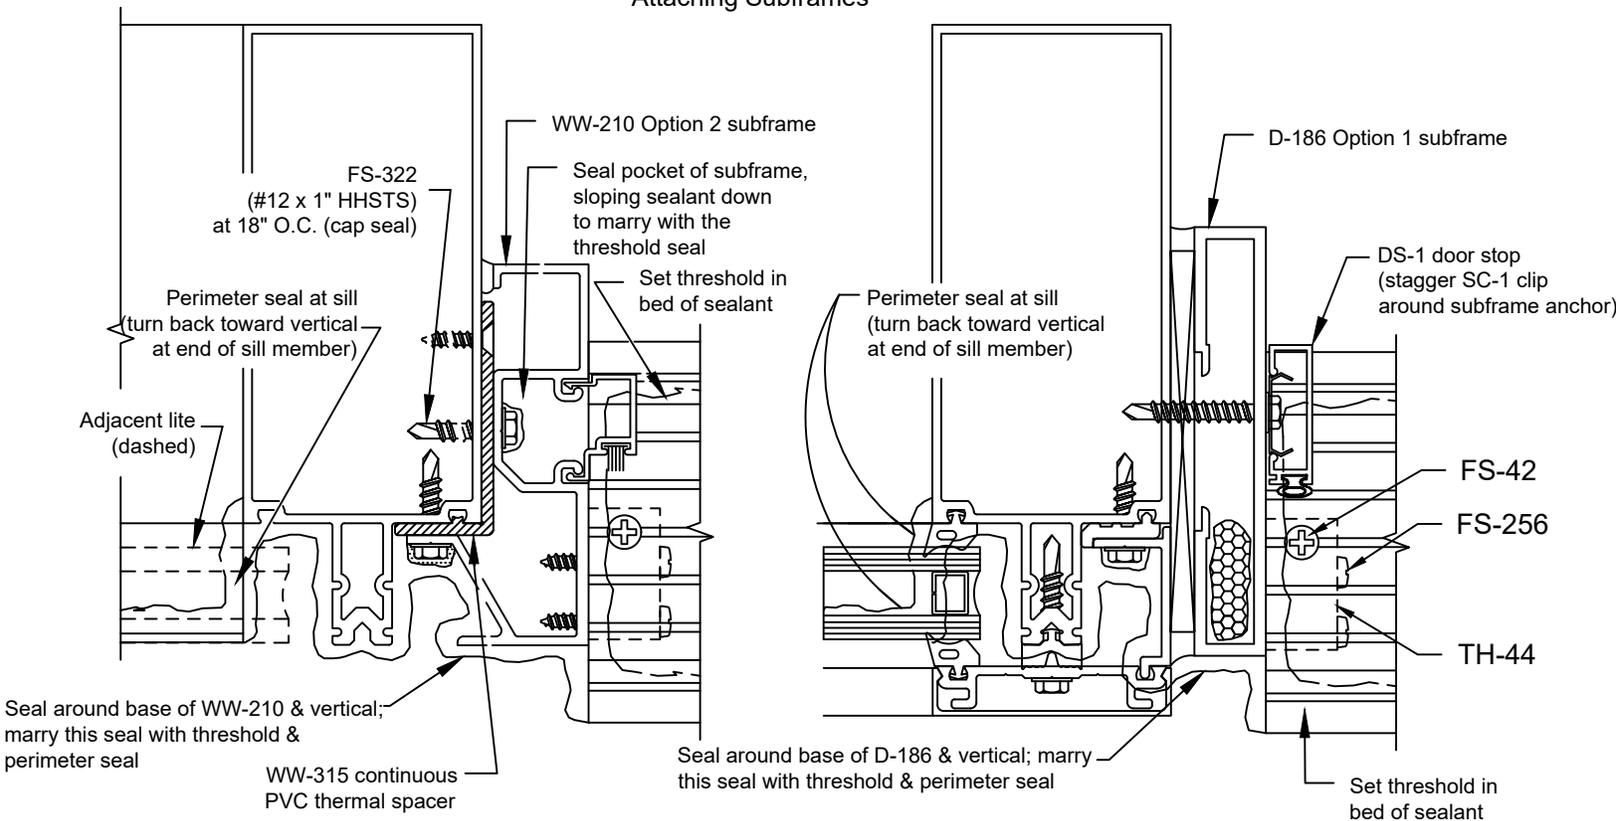

Figure 33
C.2.4 Bed threshold in sealant, attaching to TH-44 clips with FS-42 #12 x 1/2" Phillips Flat Head screws. Marry threshold seal with subframe and main system seal. SEE FIGURE 33, page 37.